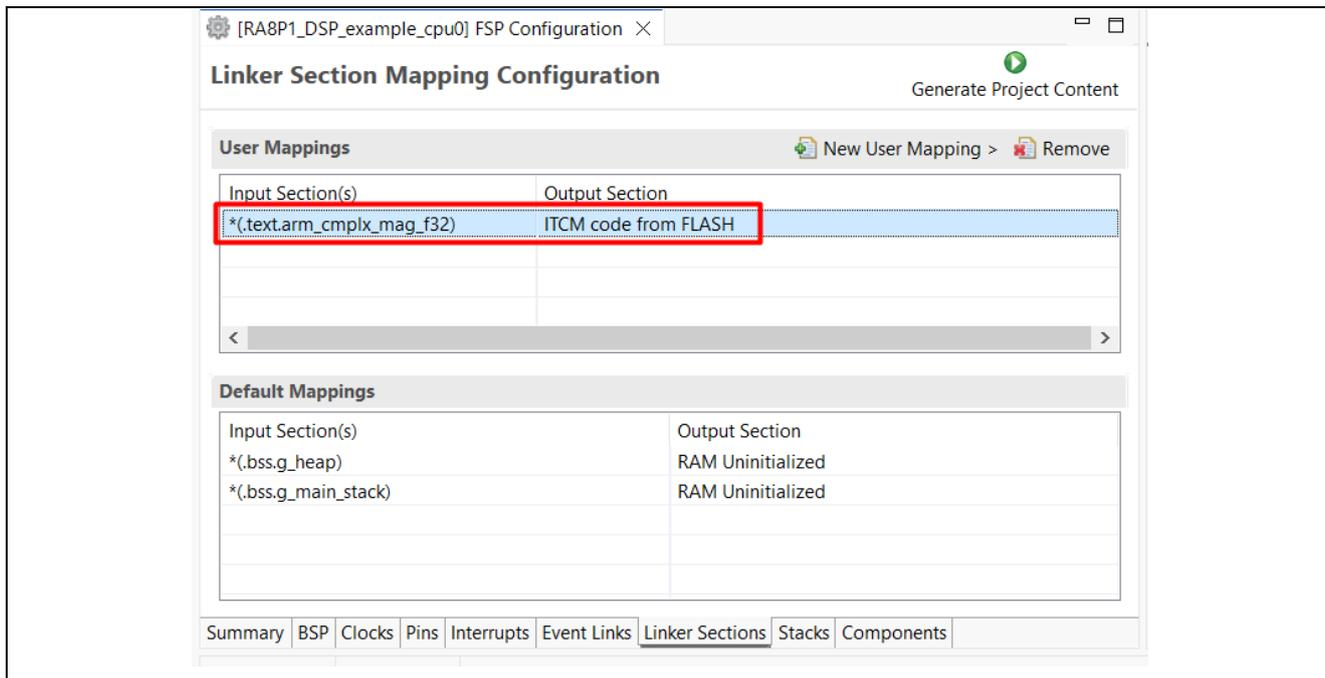

Figure 27. Example of Successful Setup for Function in ITCM section.
4. Assign the function `arm_cmplx_mag_f32` to the designated ITCM section (Figure 25 to Figure 27).
After completing the configuration shown in Figure 27, follow these steps to apply the changes: Click on "Generate Project Content" and then select "Build Project" to generate the code and compile the updated project configuration.